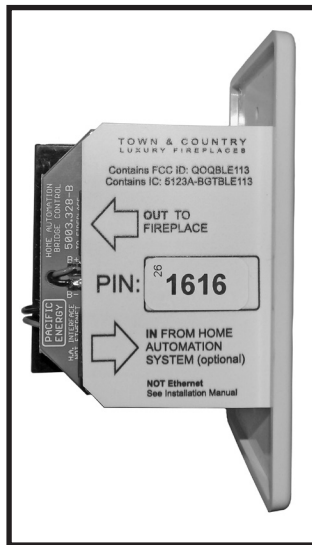

Figure 20: Wall switch with PIN number.
4. Find the PIN number located on a sticker on the wall switch (Figure 20).